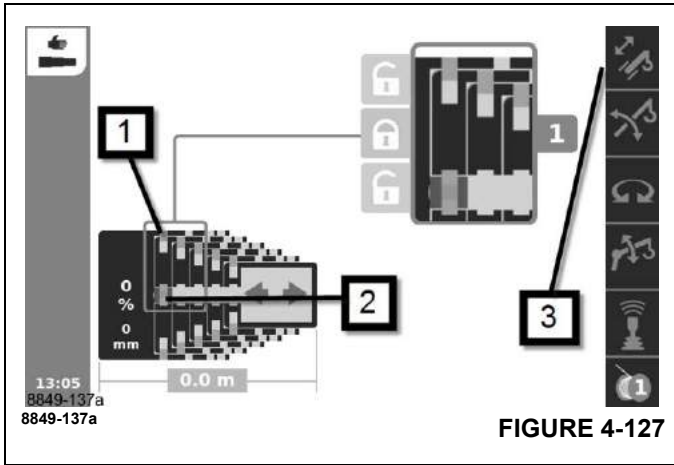

FIGURE 4-127
- Telescoping mechanism on – symbol (3), (Figure 4-127) green
- Telescopic section locked – symbol (1) green
- Telescoping cylinder unlocked – symbol (2) red